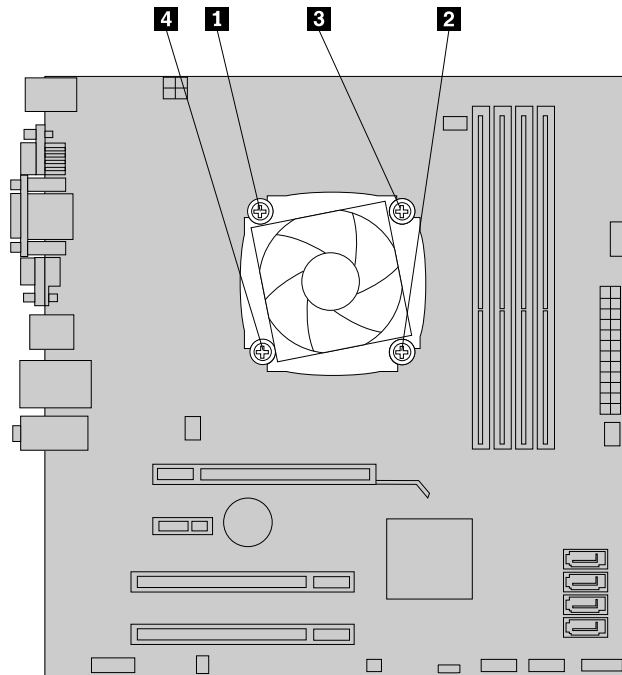

Figure 19. Screws that secure the heat sink and fan assembly
9. Follow this sequence to install the four screws to secure the new heat sink and fan assembly, as shown in Figure 19 “Screws that secure the heat sink and fan assembly” on page 25: